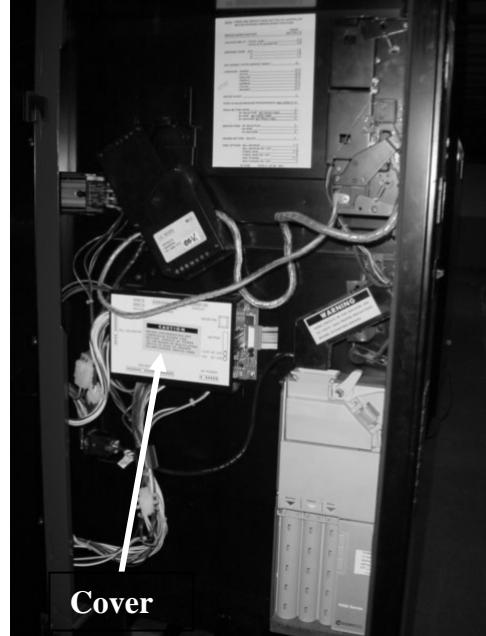

Figure 1
2. Remove the controller board cover as shown in Figure 1.